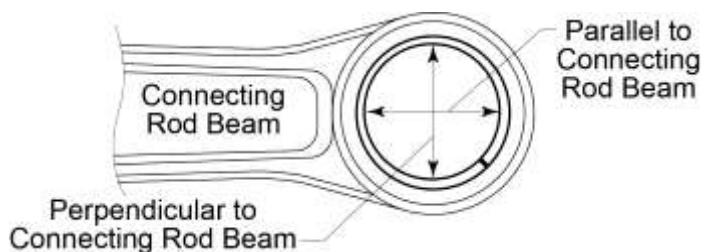

Figure 26
- C. After bushing removal, measure the inside diameter of the connecting rod both parallel and perpendicular to the connecting rod beam (Figure 26). If either inside diameter measurement is not between 1.1833 in. (30.056 mm) and 1.1848 in. (30.094 mm), discard the connecting rod and replace it with a serviceable connecting rod.